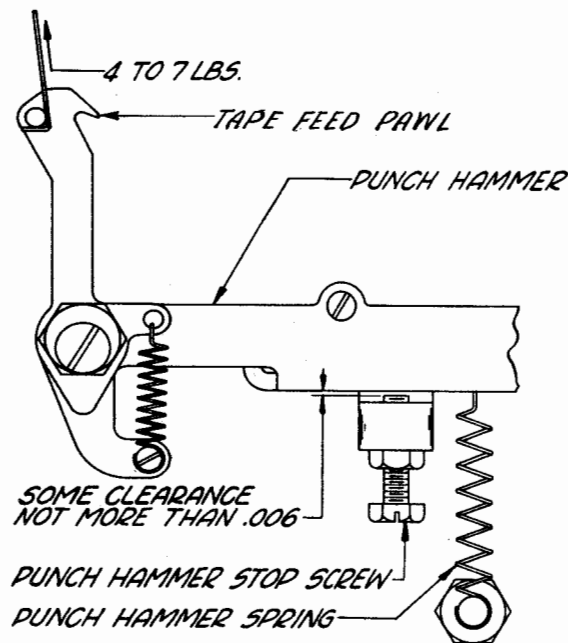

Figure 36
2.72 Punch-hammer Stop Screw: With the operating cam sleeve in the stop position and the punch-control lever in the ON (to the left) position, there should be some clearance, not more than 0.006 inch, between the punch-hammer stop screw and the punch hammer. See Figure 36.
scale on the stud on the feed pawl and pull upward (slightly to the left). It should require a pull of minimum 4 pounds, maximum 7 pounds to start the punch hammer moving. See Figure 36.